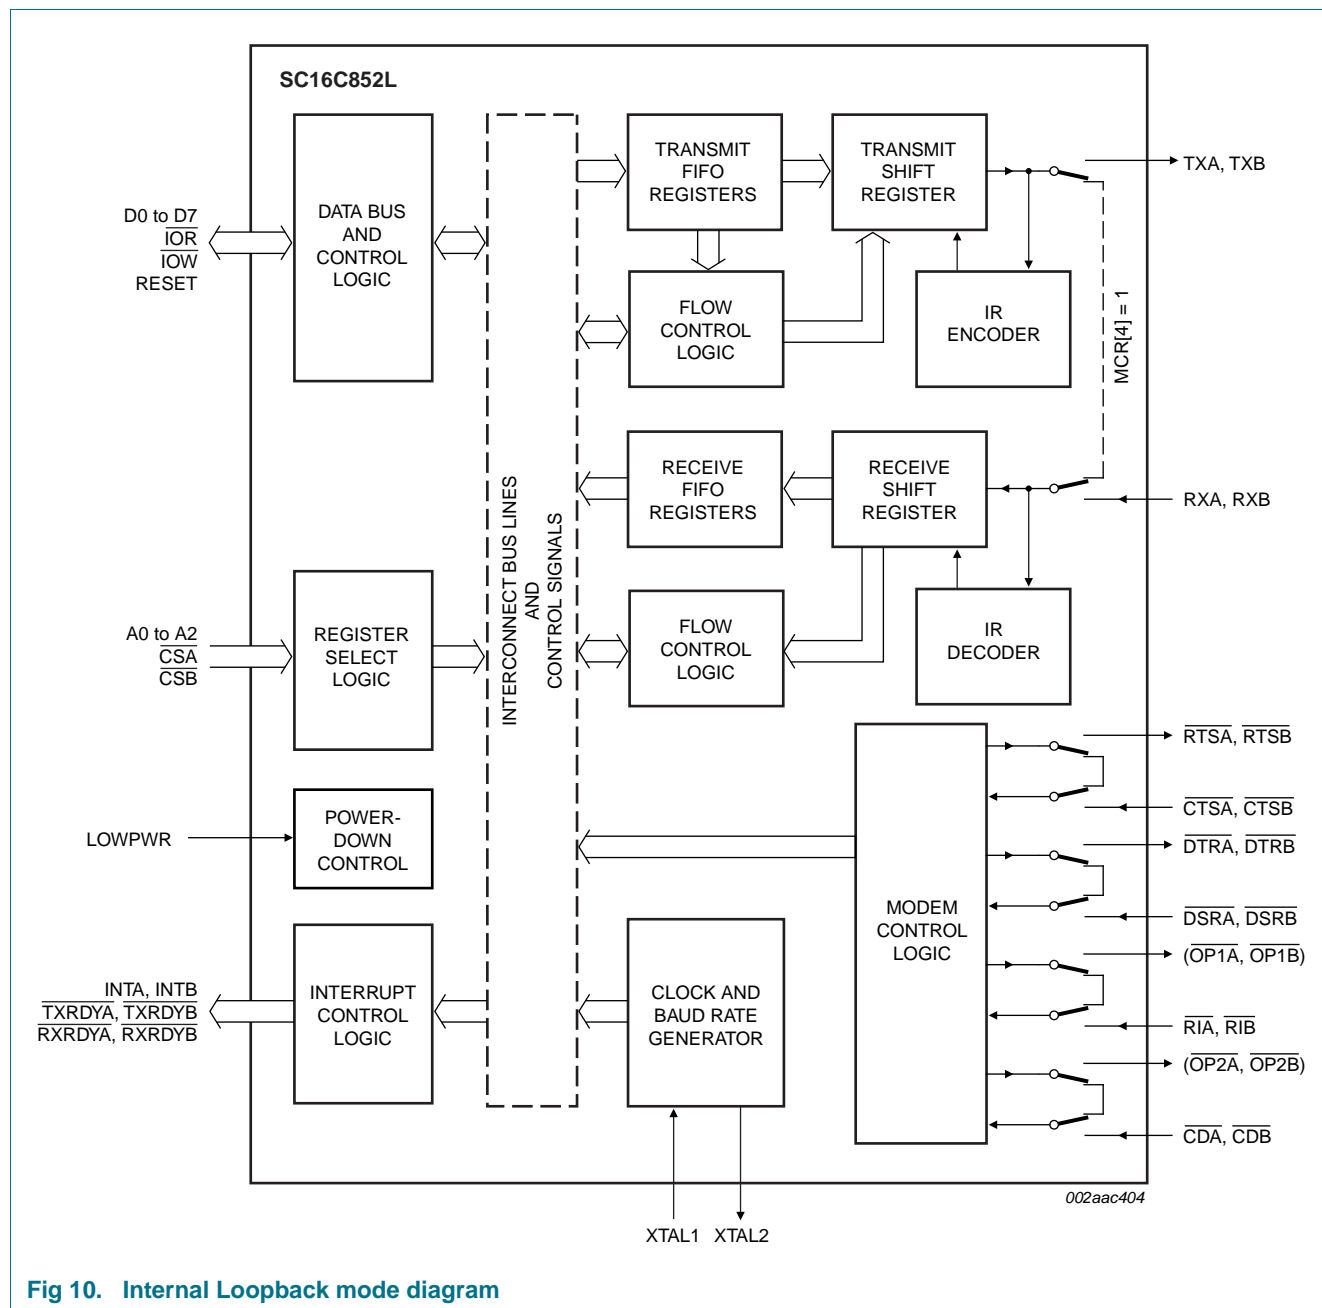

Fig 10. Internal Loopback mode diagram
The internal loopback capability allows on-board diagnostics. In the Loopback mode, the normal modem interface pins are disconnected and reconfigured for loopback internally (see Figure 10). MCR[3:0] register bits are used for controlling loopback diagnostic testing. In the Loopback mode, the transmitter output (TX) and the receiver input (RX) are disconnected from their associated interface pins, and instead are connected together internally. The $\overline{\text{CTS}}$, $\overline{\text{DSR}}$, $\overline{\text{CD}}$, and $\overline{\text{RI}}$ are disconnected from their normal modem control input pins, and instead are connected internally to $\overline{\text{RTS}}$, $\overline{\text{DTR}}$, MCR[3] ($\overline{\text{OP2A}}/\overline{\text{OP2B}}$) and MCR[2] ($\overline{\text{OP1A}}/\overline{\text{OP1B}}$). Loopback test data is entered into the transmit holding register via the user data bus interface, D[7:0]. The transmit UART serializes the data and passes the serial data to the receive UART via the internal loopback connection. The receive UART converts the serial data back into parallel data that is then made available at the user data interface D[7:0]. The user optionally compares the received data to the initial transmitted data for verifying error-free operation of the UART TX/RX circuits.